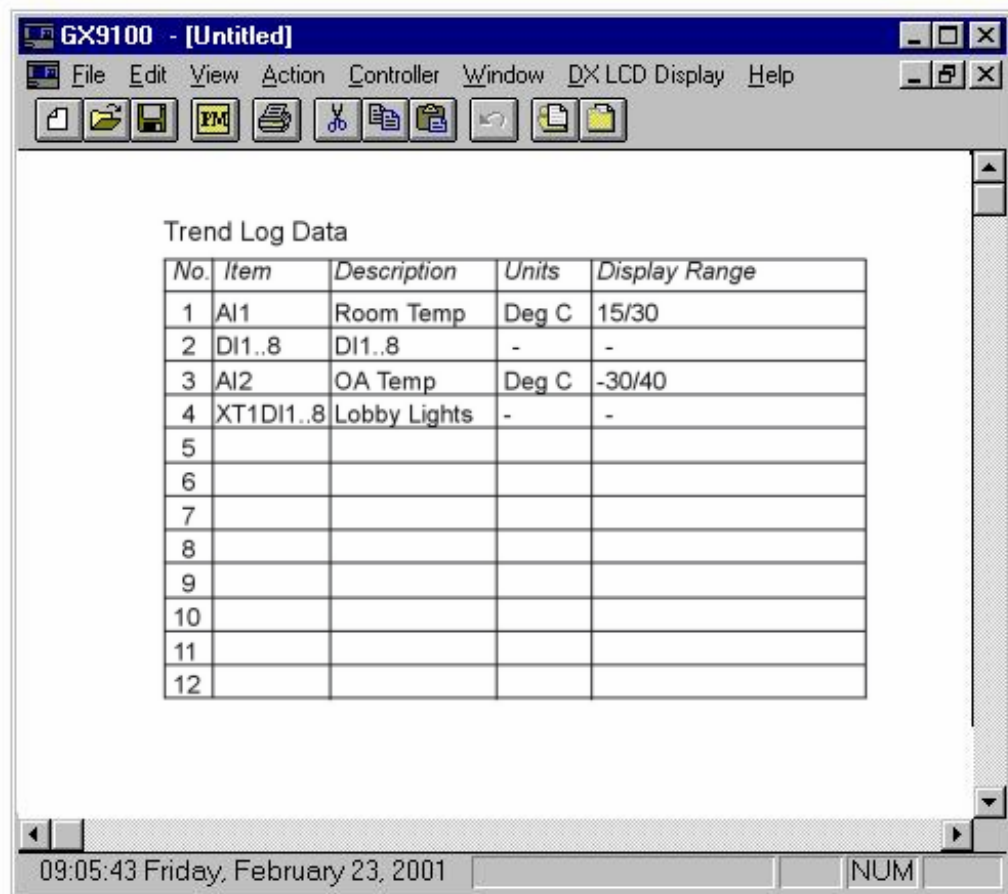

Figure 15-1: DX LCD Display Trend Data Window Example
The DX LCD Display Trend Data window contains a table showing the points from the Trend Log module in the controller configuration (Figure 15-1). The item (Tag) names shown are the Items for which the DX is configured to store trend data.
1. On the DX LCD Display menu, click Trend Data. The DX LCD Display – Trend Data window appears (Figure 15-1).